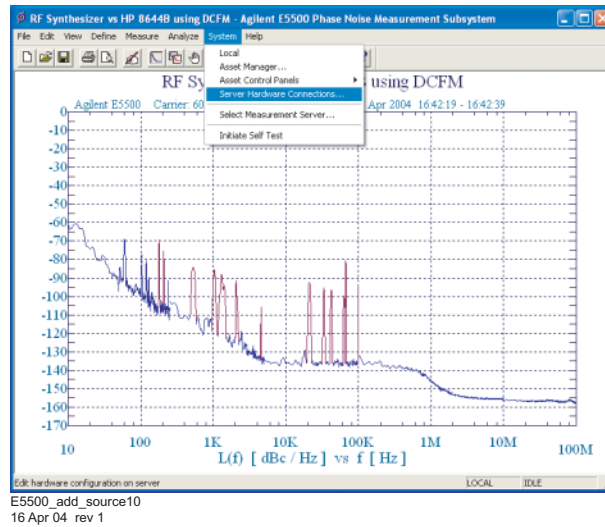

Figure 29 Navigate to server hardware connections
- 1 From the **System** menu, choose **Server Hardware Connections**. See Figure 29.